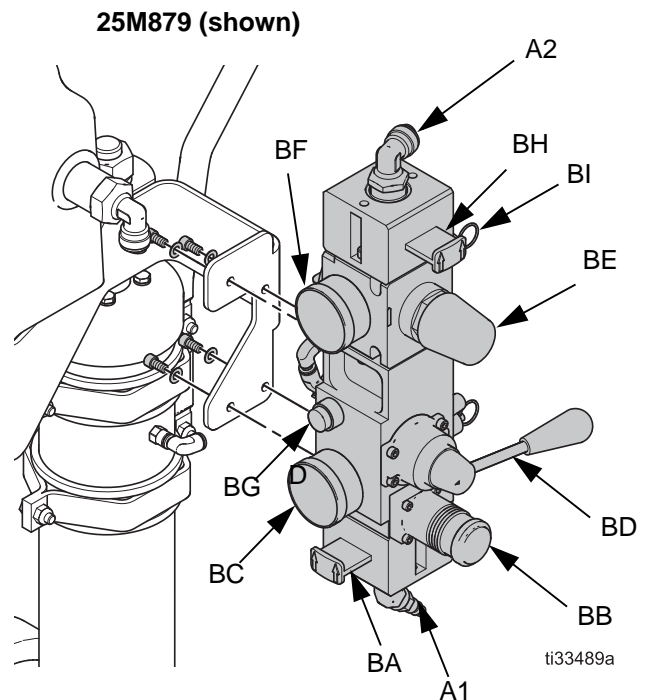

FIG. 1
1. Using four screws and washers, attach the integrated air controls to the mounting bracket. See FIG. 1.